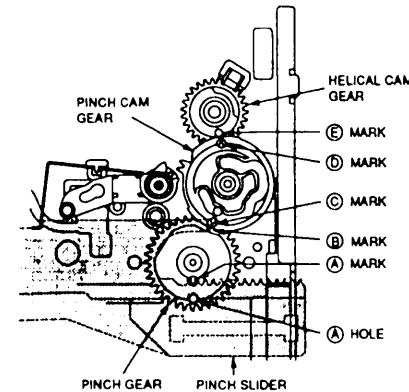

Fig 18.
- 1: Align the (A) hole on the PINCH SLIDER with the (A) mark on the PINCH GEAR through the hole on the chassis as shown in Fig 18
- 2: Align the (B) mark on the PINCH GEAR with the (C) mark on the PINCH CAM GEAR and the (D) mark on the PINCH CAM GEAR with the (E) mark on the HELICAL CAM GEAR as shown in Fig 18.